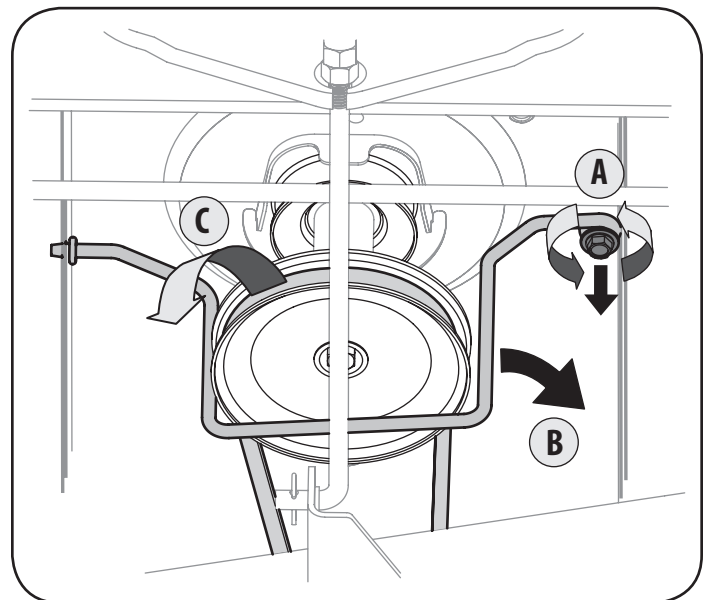

Figure 23
4. Remove the belt (C) from around the tractor's PTO pulley. See Figure 23.